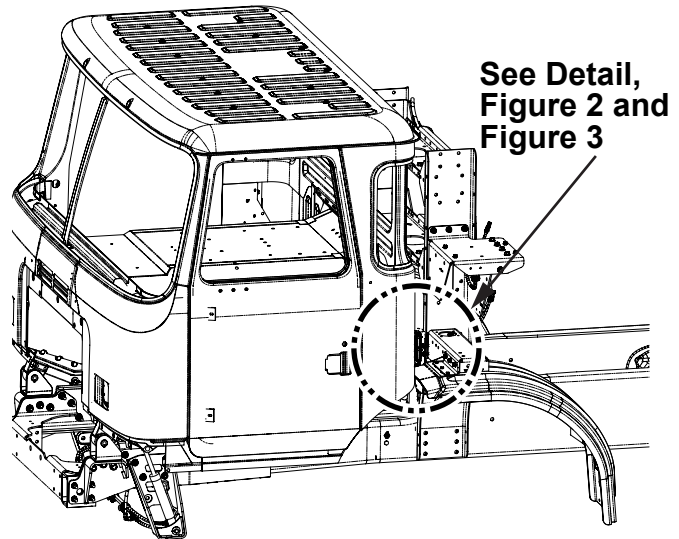

Figure 1
2. Locate the FB3 fuse box on the inboard side of the left-hand upright (see Figure 1).